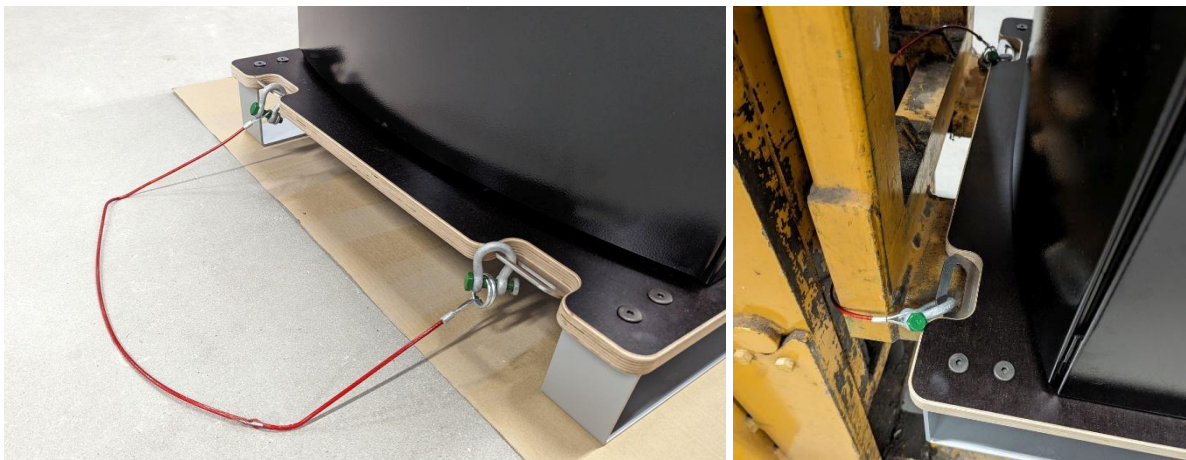

FIGURE 2-3 - SAFETY WIRE
- Ensure that the safety wire is attached around a solid piece of metal, once the recording unit has been loaded onto the reach truck, see Figure 2-3 - Safety wire.